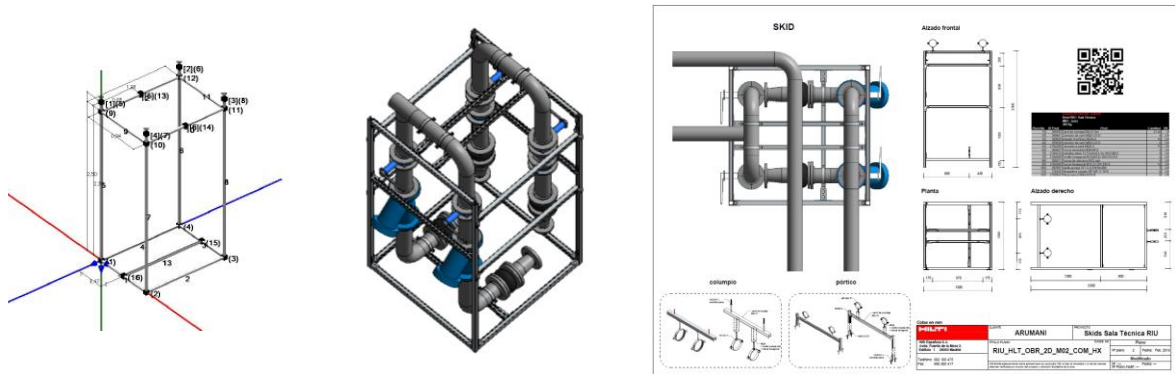

Figure 4: Progression of BIM Services: Design (left), Modeling (middle) and Data Extraction (right).
- Better coordination of the different trades and among subcontractors – a BIM model is shown in Figure 4 with a traditional support approach (left) and multi-trade approach (right).